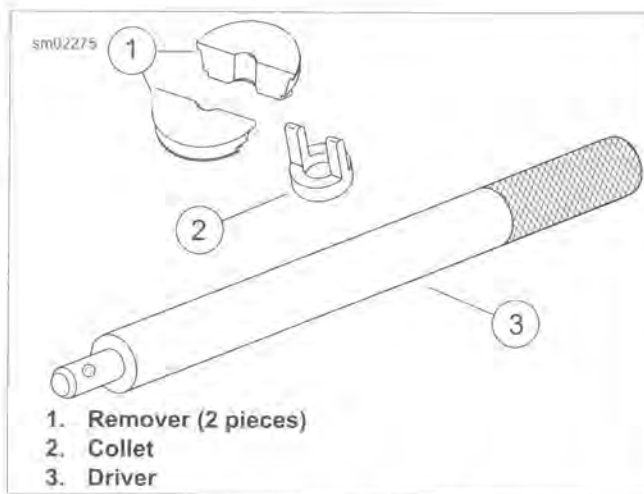

Figure 2-108. Race Remover Tools
1. See Figure 2-108. With the tapered side down, seat the two-piece STEERING HEAD BEARING RACE REMOVER (Part No. HD-39301-A) (1) on the upper bearing race leaving a gap in the middle.
2. Install the collet (2) on the UNIVERSAL DRIVER (Part No. HD-33416).
3. Insert the driver (3) at the bottom of the steering head tube. While holding the remover tool on the race, center the collet (2) in the gap. Tap the driver to remove the upper race.